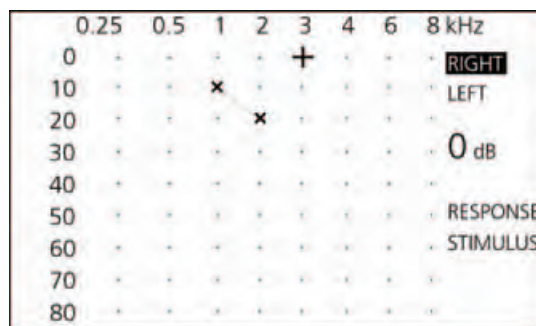

Figure 6
The cross-hairs automatically go on to the next frequency. The test begins at 0 dB again. Save the patient's response by pressing the **ENTER** button (22). The measurements are connected by a line in the audiogram view (Figure 6).